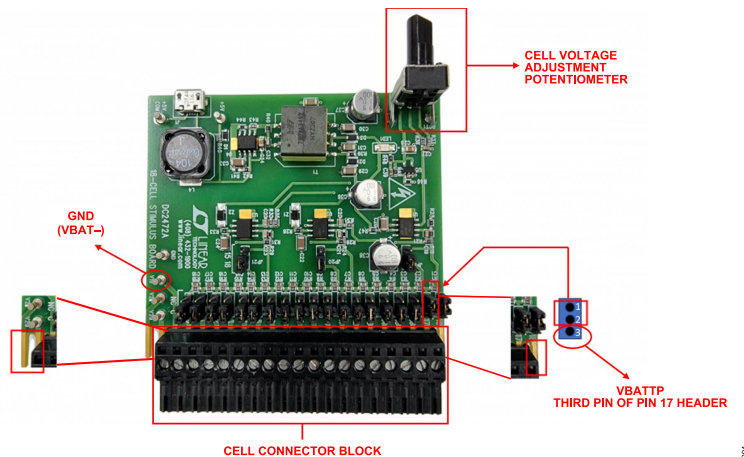

Figure 2. DC2472A Battery Cell Emulator
1. Screw the two cell connector blocks to the two DC2472A battery emulators. Note that the first two terminals and the last terminal of each DC2472A connector must be left hanging (see Figure 2).
3. Set the DC2472A battery emulators to the lowest voltage by fully turning the cell voltage adjustment potentiometer counter-clockwise (see Figure 2).